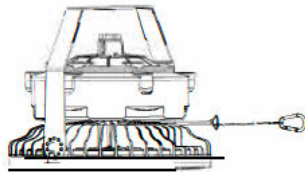

Fig. 14
2. Surround the wire rope to the rope fixing position in the middle of the light (Fig. 14).